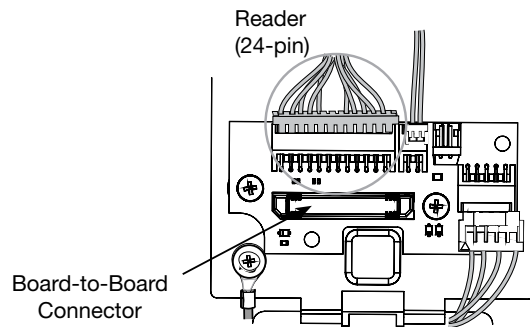

Fig. 9d
- D. Secure the 24-pin card reader connector (Fig. 9d).